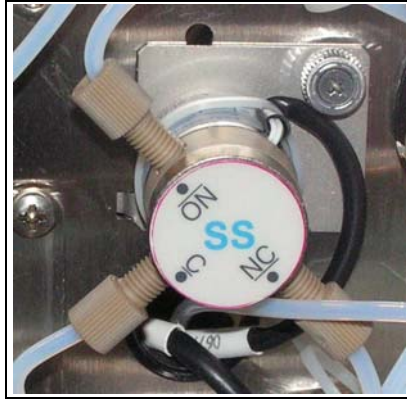

Figure 10-10. Solenoid Valve (SS Valve Shown as an Example)
2. Disconnect each liquid line on the valve to be replaced (see Figure 10-10) and remove any fitting plugs installed in the valve ports.